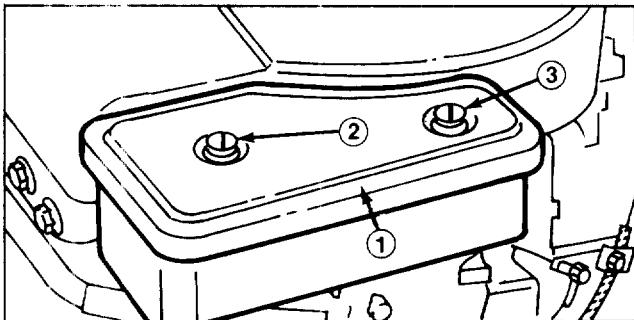

Figure 16
- Remove air cleaner stud, screw and cover. Replace cover gasket if damaged (Fig. 16).